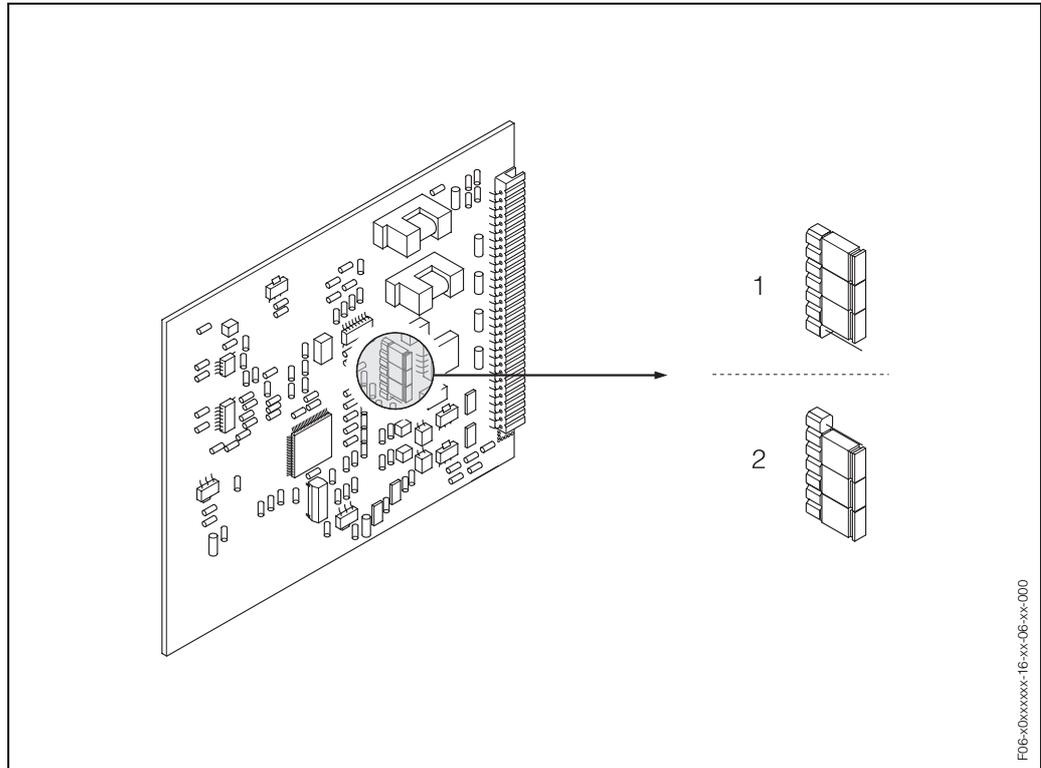

Fig. 44: Configuring the current output (I/O board)
3. Position the jumper according to Fig. 44.
Risk of destroying the measuring device. Set the jumpers exactly as shown in Fig. 44. Incorrectly set jumpers can cause overcurrents that would destroy either the measuring device or external devices connected to it.